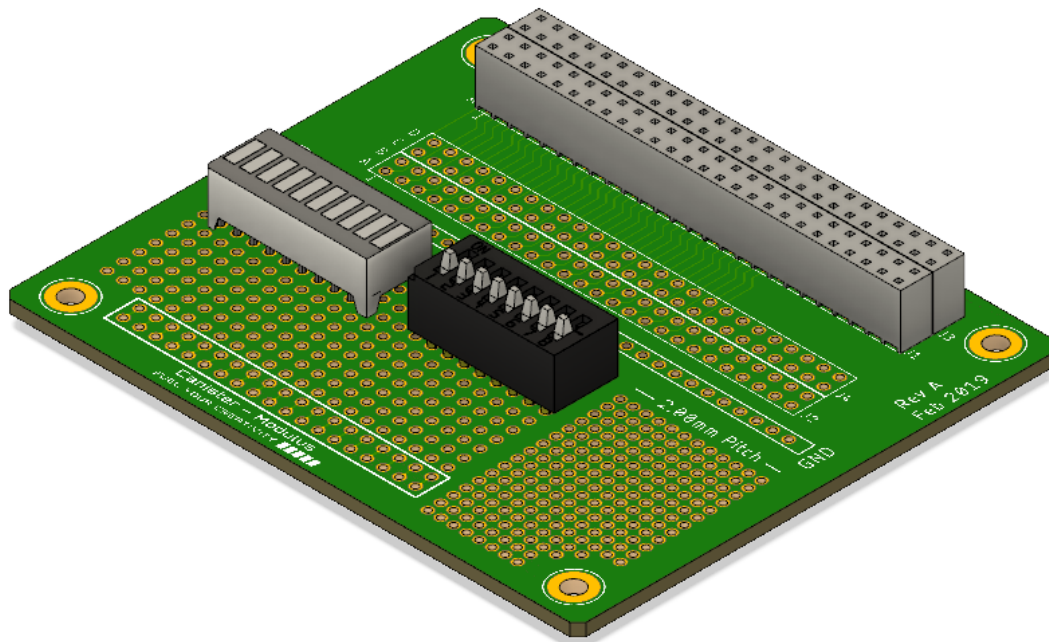

Figure 1. Intended Use Example.
- Status display with LED and switch array (shown in Fig. 1)